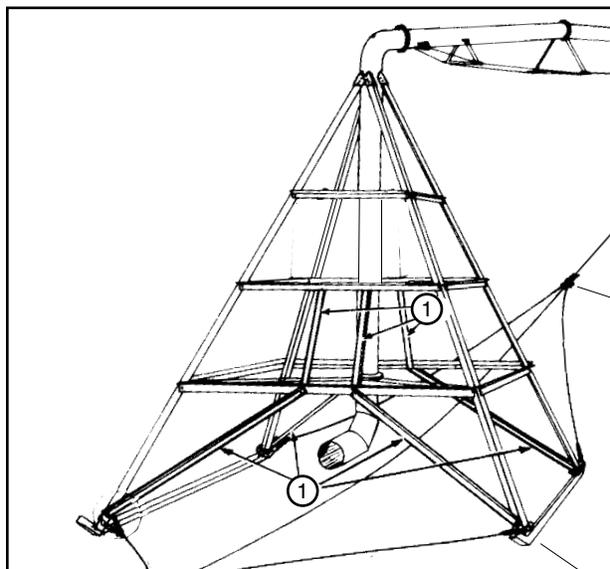

Figure 42-3 1. Tow Brace
10. Make sure that the skid pivot is equipped with tow braces. See Figure 42-3.